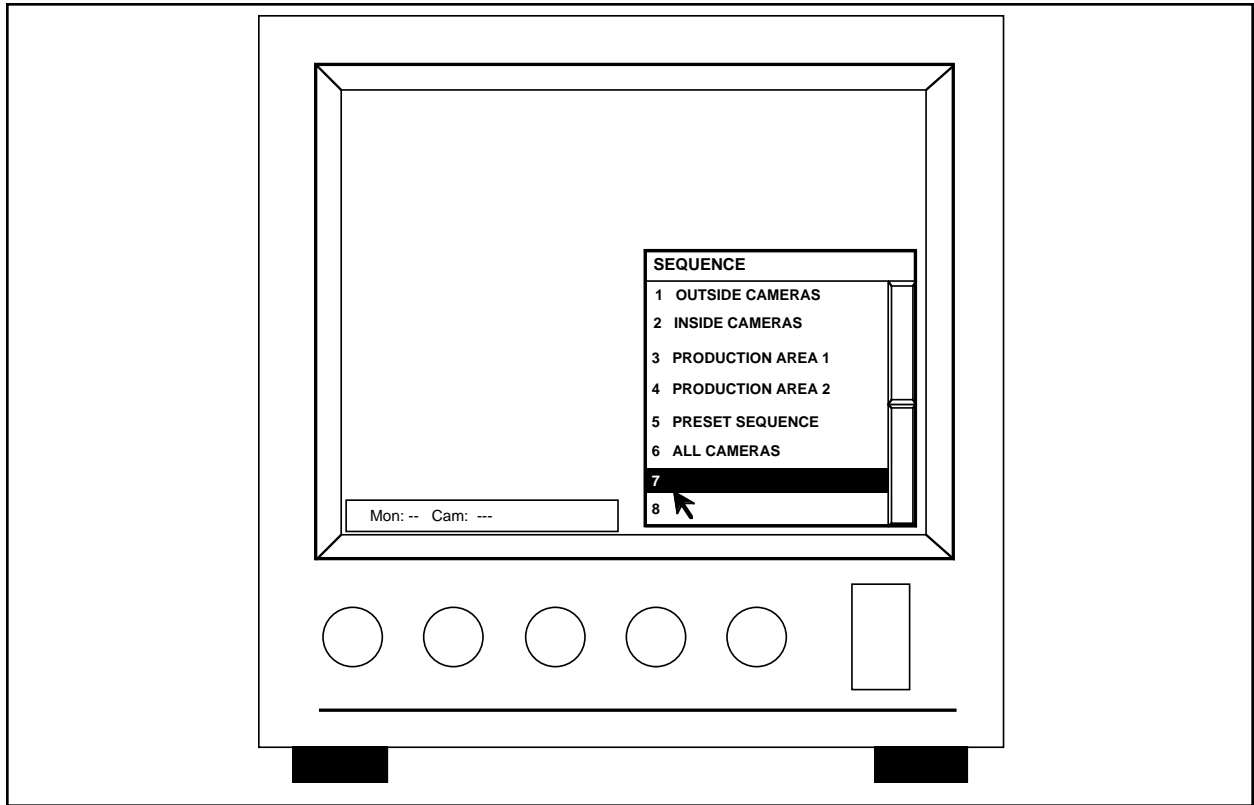

Figure 32. Sequence Description Screen
The CM8500 System is capable of storing 16 different scanning sequences, with each sequence capable of having 32 steps. Camera presets also can be programmed into the scanning sequence, if desired. When defining a camera sequence, each camera selection must contain a dwell time. Entering a dwell time of zero will cause the specified camera to be bypassed in the scanning sequence. To program a camera sequence, refer to Figures 32 and 33 and the following instructions.
1. From the **Seq** menu, [**js to Edit**], highlight and release the [**point**] button. The Sequence Description Table should appear on the right side of the monitor screen. Refer to Figure 32.